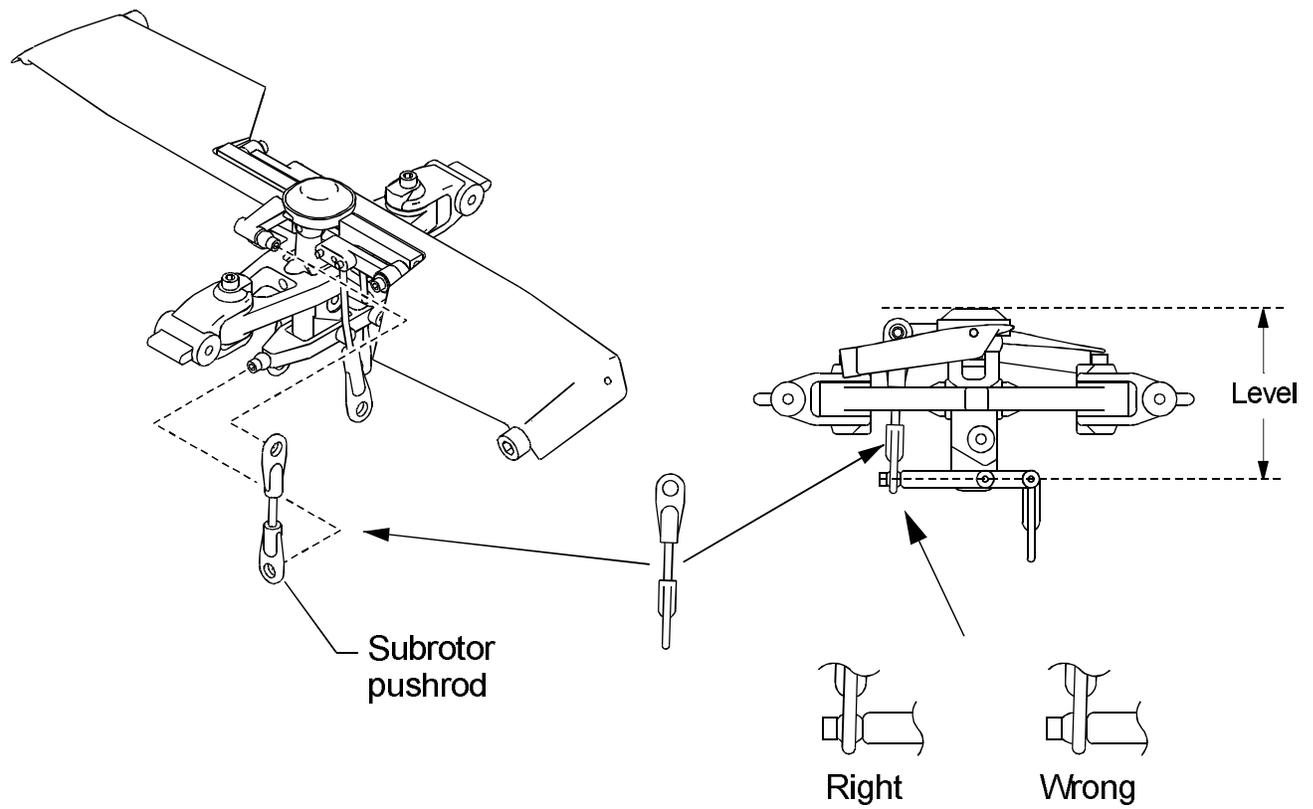

Figure 8-8.
- ❑ 17. Snap the *Subrotor* pushrod onto the follower link and *Subrotor* universal balls, and adjust the length of the pushrod until the *Subrotor* stabilizer and follower link are level as shown in the side view of Fig. 8-8.